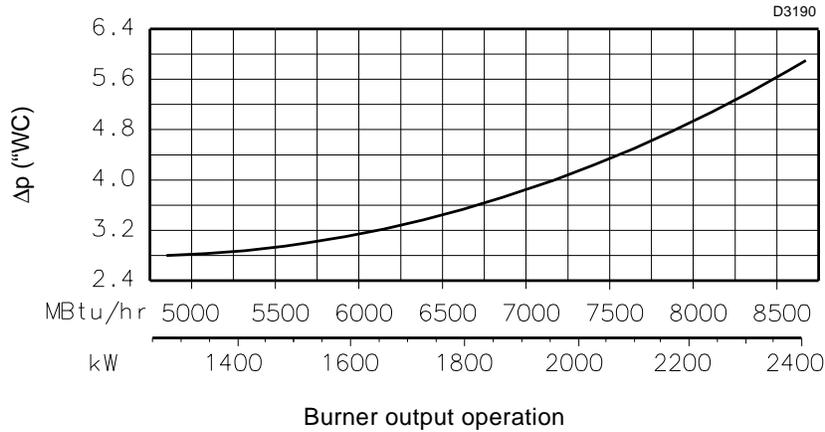
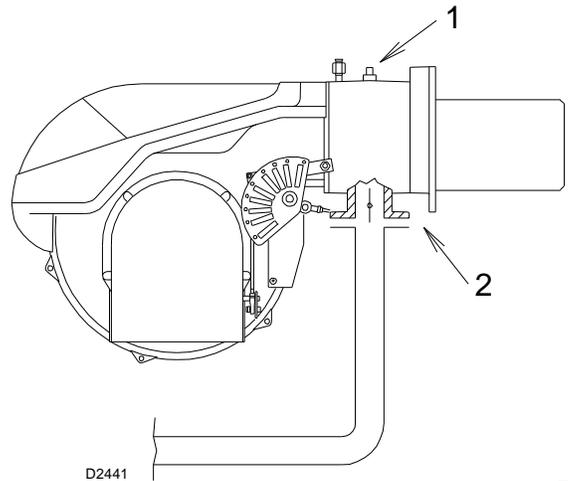

Fig. 21
Fig. 22
The diagram (Fig. 21) shows minimum load losses at combustion head depending on the maximum burner output operation with natural gas (G 20).
Gas pressure is measured at the test point 1)(Fig. 22), with:
- subtract the combustion chamber pressure from the gas pressure measured at test point 1)(Fig. 22);
- find, in the diagram (Fig. 21) the pressure value closest to the result you want;
- Gas pressure at test point 1)(Fig. 22) = 6 "wc
To know the required gas pressure at test point 1)(Fig. 22), set the maximum output required from the burner operation, then:
- read, on the diagram (Fig. 21), the pressure test point 1) (Fig. 22);
pressure required at pressure test point 1)(Fig. 22).
Δp "WC gas butterfly 2)(Fig. 22)